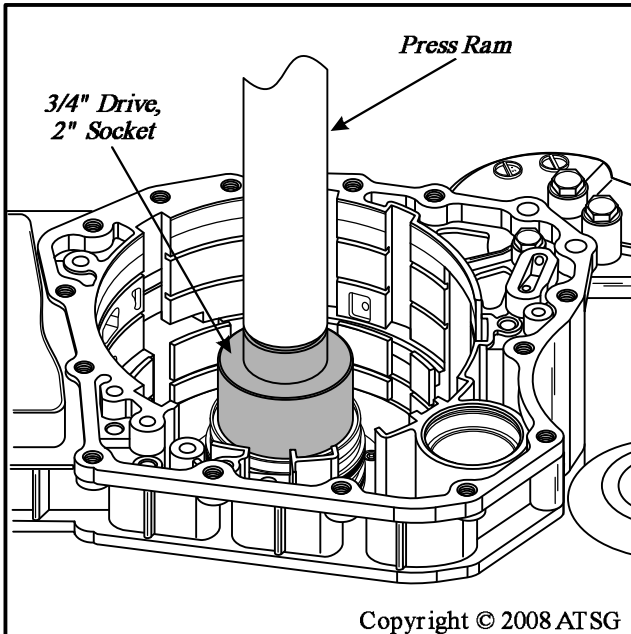

Figure 66
2. A press is then required to remove assembly from the case, using a 3/4" drive, 2" socket to press against support, as shown in Figure 66.
**Caution: Ensure that you press against the support, as shown in Figure 66. Special tools are not yet available from dealer and some must be manufactured, which we will discuss later in this manual.**